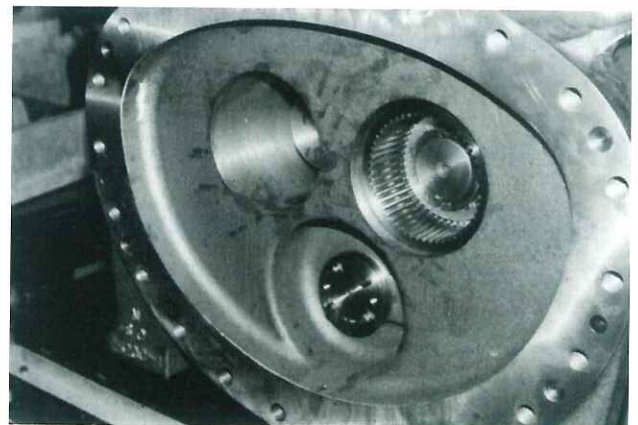

Fig. 57 Gear Coupling Section
Unlike on a single-stage machine, the unloader push rod (167) passes through the bearing cover because the unloader cylinder is fitted to this cover (16). In the case of Models 2520C, however, an unloader push rod guide hole is provided in the bearing cover, while Model 3225C has an unloader push rod guide hole in the bearing head (11-1, 11-2) as well (ref. Fig. 57).